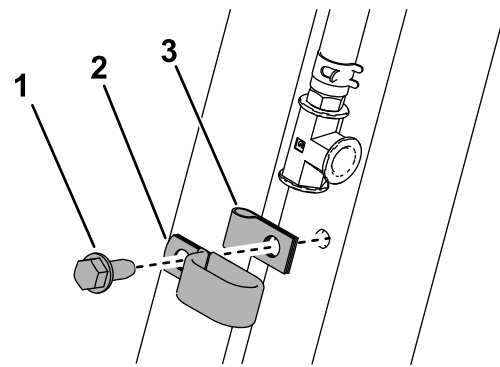

Figure 8
4. Loosely install the clip, large R-clamp, and bolt (1/4 x 5/8 inch) as shown in Figure 8.